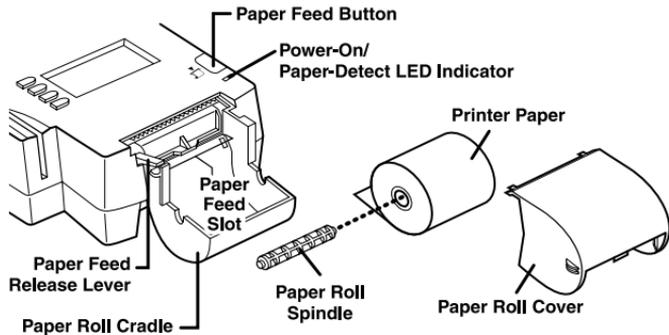

Figure 16 Thermal Printer Features
A fast, quiet thermal printer is built in to the Omni 3210. Because the printer receives power directly from the terminal, there are no additional cables to connect (see Figure 16).
Before you proceed with installing a paper roll, please familiarize yourself with the various features of the printer, as shown in Figure 16.
4. Holding the roll in your hand with the paper feeding from the *bottom* of the roll, slowly insert the leading end into the paper feed slot (refer to Figure 16). When the built-in sensor detects the paper, the feed mechanism engages and pulls the paper into the printer, ejecting the end of the paper from the top of the printer over the top of the paper roll cover.
Note: The paper feed slot is located directly above the gray plastic paper roll cradle, and below the black plastic ridge that extends slightly from the base of the paper feed mechanism (refer to Figure 16).
Note: The integrated thermal printer has a paper feed release lever that lets you manually adjust the position of the paper you have loaded into the printer (refer to Figure 16). To do this, lift up on the small red lever located on the right side of the paper roll cradle until it snaps into its “Up” position. You can now freely move the paper up and down through the feed mechanism. When the paper is in the correct position, lower the lever until it snaps back into its “Down” position.
1. Remove the paper roll cover. Then, lift up on the small red lever located on right side of the paper roll cradle until it snaps into its “Up” position (see Figure 16). This lets you move the paper freely through the paper feed mechanism.